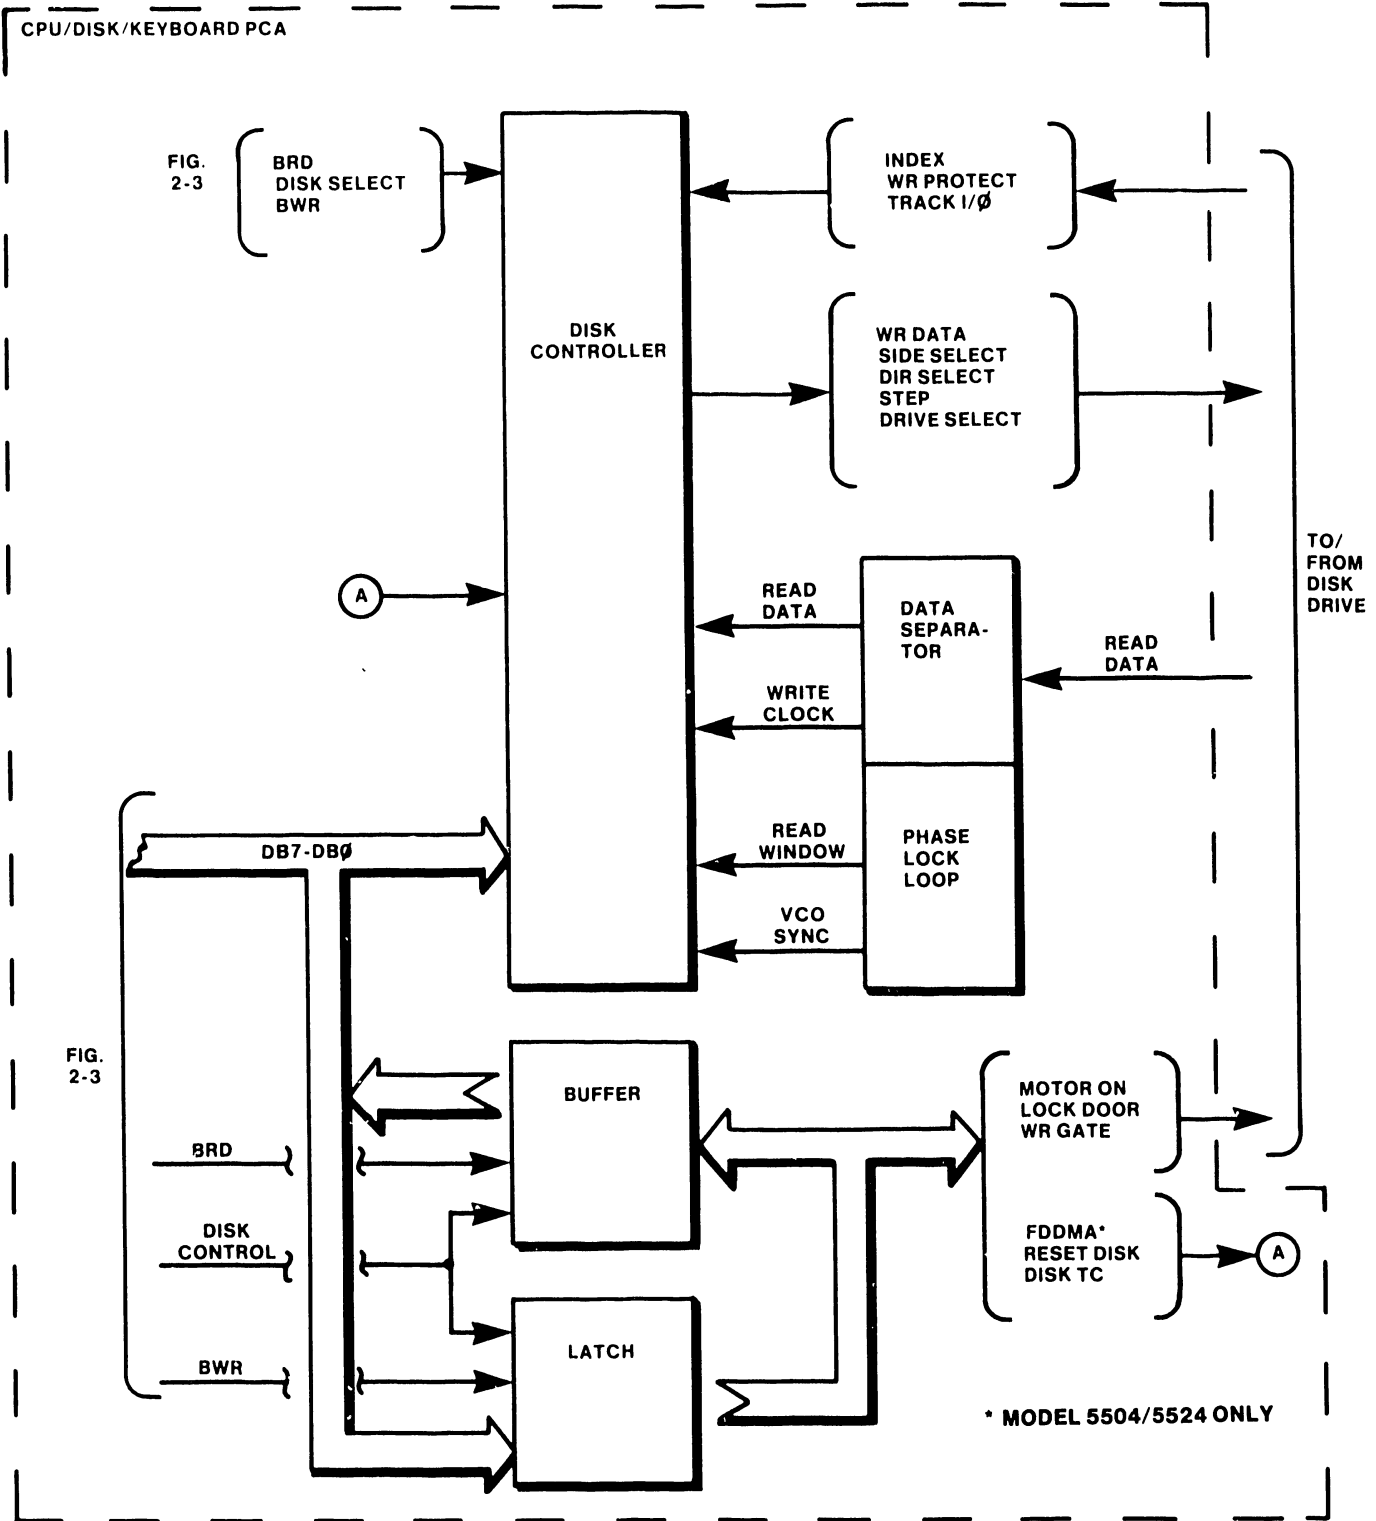

FIGURE 2-6 DISK COMMUNICATION
2.6.1 DISK COMMUNICATIONS (Figure 2-6)